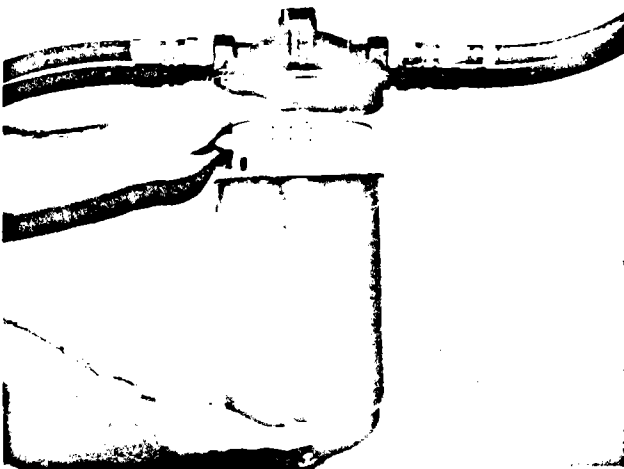

Fig. 2-20, (V11910). Installing replaceable fuel filter element
2. Loosen the nut(s) at the top of the fuel filter(s). Take out the dirty element, clean the filter case(s) and install new element(s). Fig. 2-20.